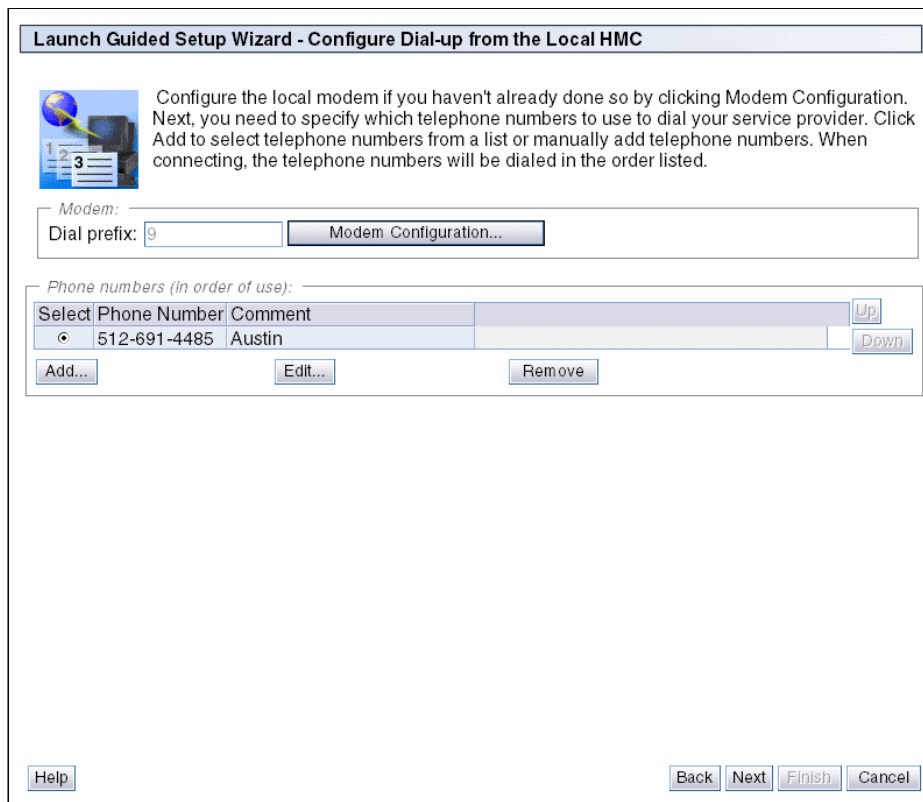

Figure 3-43 Launch Guided Setup Wizard - List of Dial-up Number
35. The Launch Guided Setup Wizard - List of Dial-up Number window is now displayed (Figure 3-43). You can add additional phone numbers by repeating the same procedure again and selecting a different number.